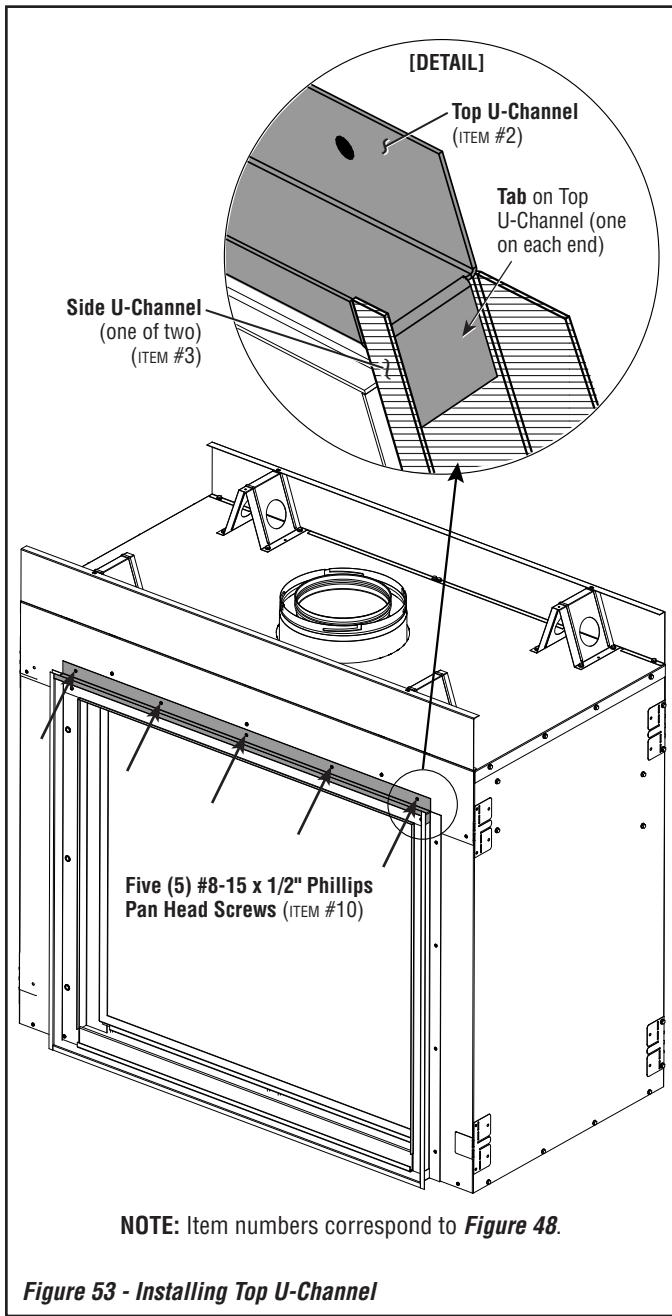

Figure 53 - Installing Top U-Channel
5. See **Figure 53**. Hook the **Tabs** on the **Top U-Channel** (ITEM #2) OVER the top edge of each Side U-Channel. Align the holes.
Attach five (5) of the provided **#8-15 x 1/2" Phillips Pan Head Screws** (ITEM #10) (see arrows in **Figure 53**).